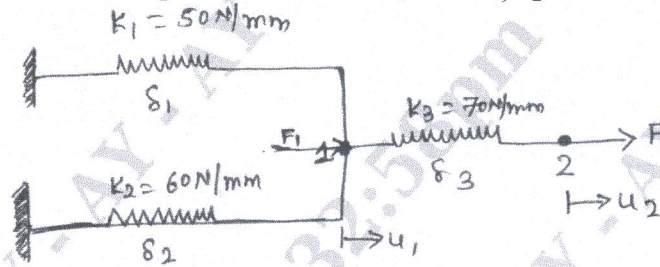

Fig. Q2 (c)
- For the spring system shown in Fig. Q2 (c), using the principle of minimum potential energy, determine the nodal displacements. Take  $F_1 = 75 \text{ N}$ ,  $F_2 = 100 \text{ N}$ . (08 Marks)